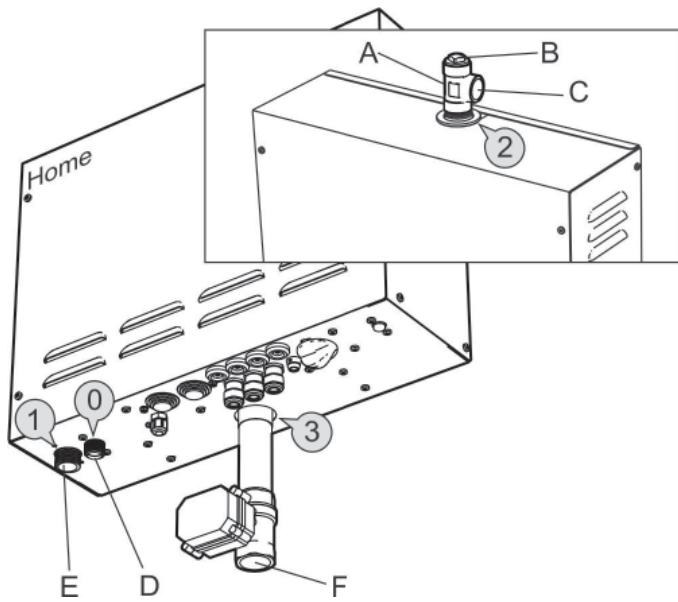

Fig. 6 Home type steam generator
Connect cold water to connection 1 (Fig. 6,7) on the steam generator. The incoming water pressure must be between min. 0.2 and max 10 bar (min. 20kPa and max 1000kPa).
Fit the connector, with the lock nut uppermost, to steam outlet 2 (Fig. 6,7) on the steam generator. Connect a copper pipe, with an internal diameter of at least 18mm, to the connector steam outlet (C). The steam pipe can have a down-slope either towards the steam room or towards the steam generator. Alternatively the steam pipe can be installed with a slope down towards both the steam room and towards the steam generator.
For drainage connect a copper pipe of good quality and an internal diameter of at least 25 mm to connection 3 (*Fig. 6,7*) on the steam generator. The steam generator drain pipe is led to the nearest drain outside the steam room. The temperature of the water being drained is about 80-85°C.
A draining pipe connected to the safety valve D (0) (*Fig. 6 and 7*) is to be installed in a continuously downward direction and in a frost-free environment.